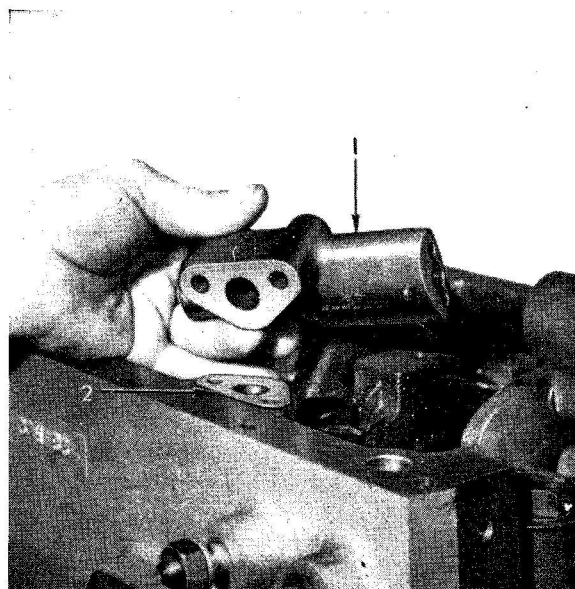

Fig. 16 1. OIL RELIEF VALVE
3. Refit the relief valve housing to the cylinder block. (Fig. 16 illustrates early type arrangement.)